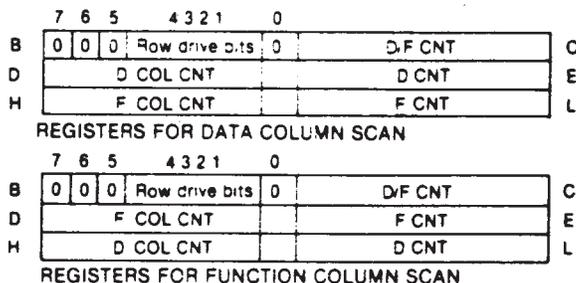

Figure 12-5
Scanning is started by activating RD1. The column lines are then input to the A register through Port A. These column lines are then sensed sequentially from D COL0 thru F COL1 see figure 12-2. This Row Drive cycle is then repeated for RD2, RD3 and RD4. Refer to figure 12-4 for a flow chart of the scan routine. If a key is found to be pressed the program immediately exits the Scan routine and goes to the Key Found (KFND) routine. Figure 12-5 shows the 8085 register usage. The B register is used to store the current Row Drive bit. Initially bit 1 is set and then output to Port C to drive RD1. As each Row Drive cycle is complete the B register is shifted left one bit to obtain the next Row Drive bit. When the bit is shifted into bit 5 scanning is complete.
DATA COUNTER (D CNT): The D CNT generates the hexadecimal code of the data key pressed. It is initially set to 0 and incremented each time a Data Column is tested and the key is found to be open (D COL line at a low voltage). Whenever a column is tested, either Data or Function, and found to be at a low voltage, the E register is incremented. As shown in figure 12-5, when Data Columns are tested the D CNT is in the E register and the Function Counter (F CNT) is in the L register. When Function Columns are tested the positions are reversed. The F CNT is in the E register and the D CNT in the L register.
DATA COLUMN COUNTER (D COL CNT): The D COL CNT keeps track of the number of Data Columns tested during each Row Drive cycle. Whenever a column is tested, either Data or Function, and found to be at a low voltage (0), the D register is decremented. As shown in figure 12-5 the D COL CNT is always paired with the D CNT. It is in the D register when Data Columns are scanned and in the H register when Function Columns are scanned. The D COL CNT is set to 04 at the start of each Row Drive cycle. When it has been decremented to zero the Data Column scan is complete.